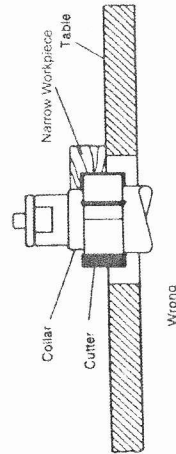

Fig. 13
5. Under no circumstances should a small workpiece be shaped against the collars as shown in Figure 13.